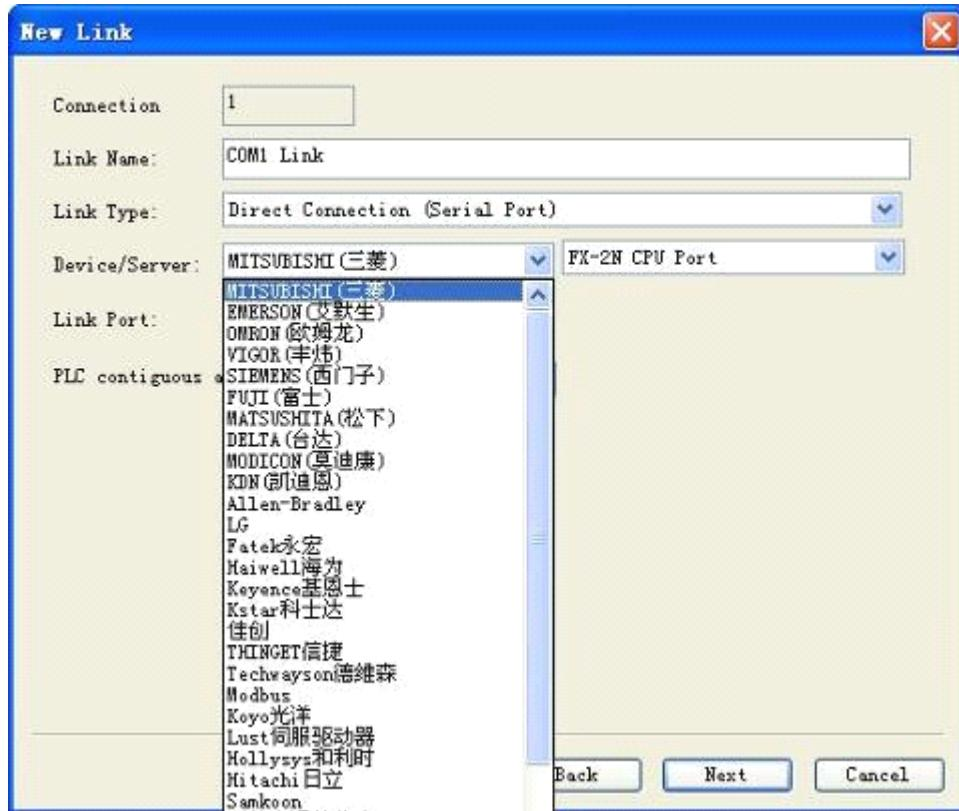

Figure 6-4 Dialog box for communication connection setting of new item
- ✓ Enter project name in column "Project Name"; select one saving position for the project in column "Position"; select "SA-4.3A(480*272 4.3")" in column "Model Selection" (The 4.3-inch HMI is just taken for example. Users can select other models as required); select "Horizontal" in column "Display Mode" (Users can select vertical display as required). After finishing the setting, information just set by users will display in the below module "Model Parameter". Users can click "Next" after confirmation to pop up the dialog box as shown in figure 6-4.